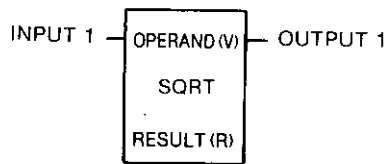

Fig. 5.47 SQRT General Form
(2) Form
- Fig. 5.47 shows the form of square root (SQRT).